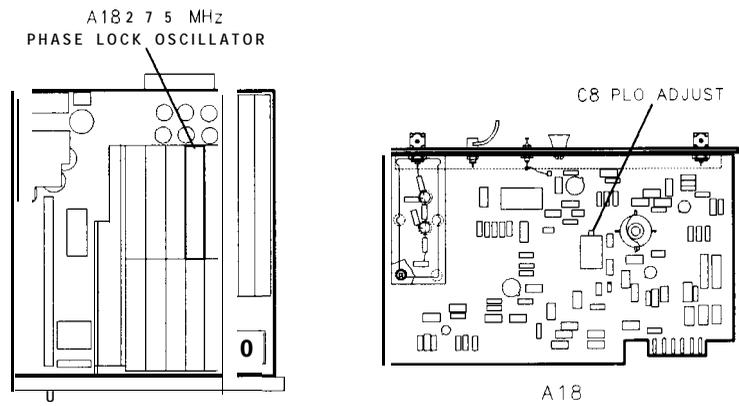

Figure 3-62. Location of 275 MHz PLO Adjustment
6. Adjust A18 PLO ADJUST A18C8 for DVM indication of +6.5 V dc ± 0.5 V dc. See Figure 3-62 for location of adjustment.